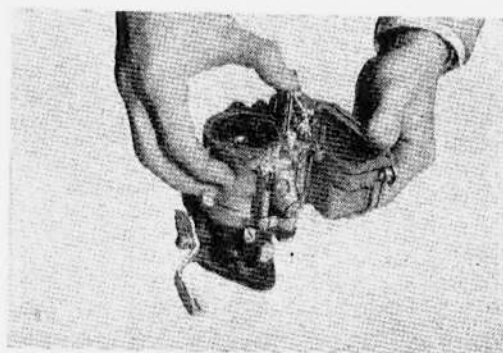

Figure 143
(18) Insert spare metering rod into hole in operating block (Fig. 143).